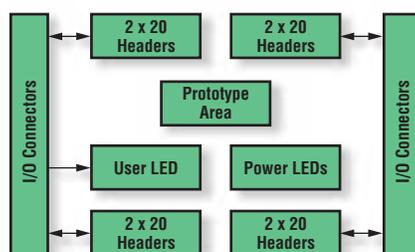

Figure 5 - P160 prototype module block diagram
- The P160 prototype module (Figure 5) offers general purpose expansion headers for all 110 user I/O signals, as well as a prototype area for building custom circuits.